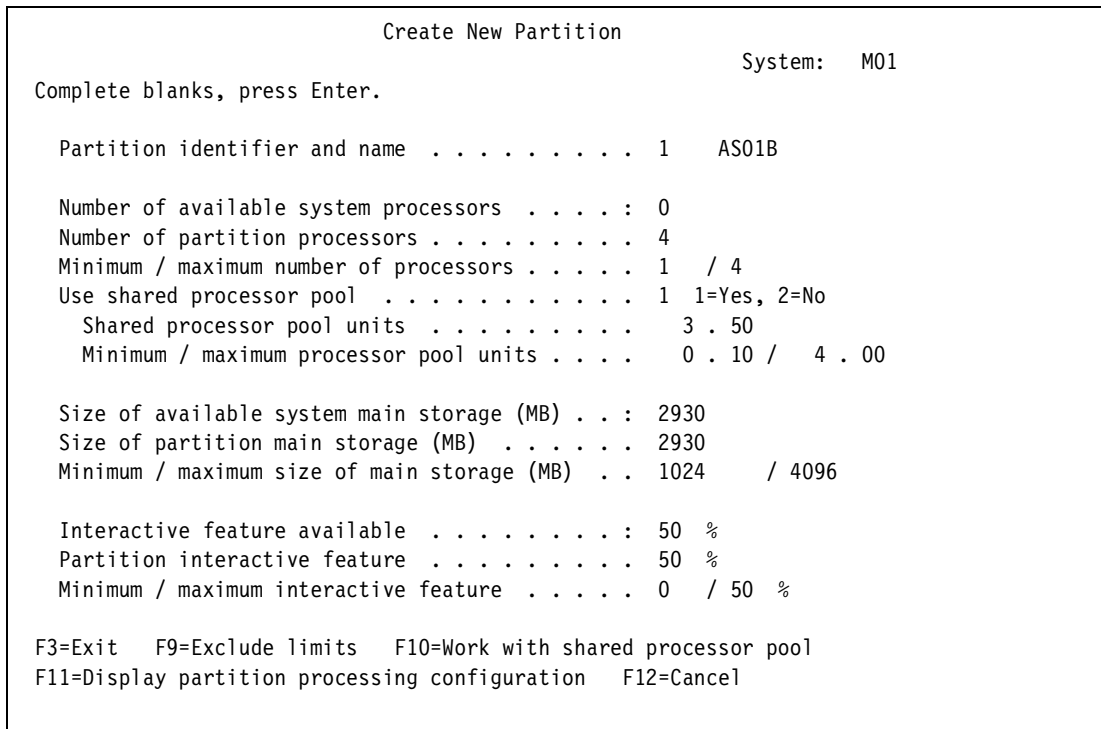

Figure 4-31 Create New Partition
6. Type in the appropriate information as shown in Figure 4-31 for processors, memory, and interactive. Note that you must press F9 to see the minimum and maximum fields. In this example, we use shared processors.